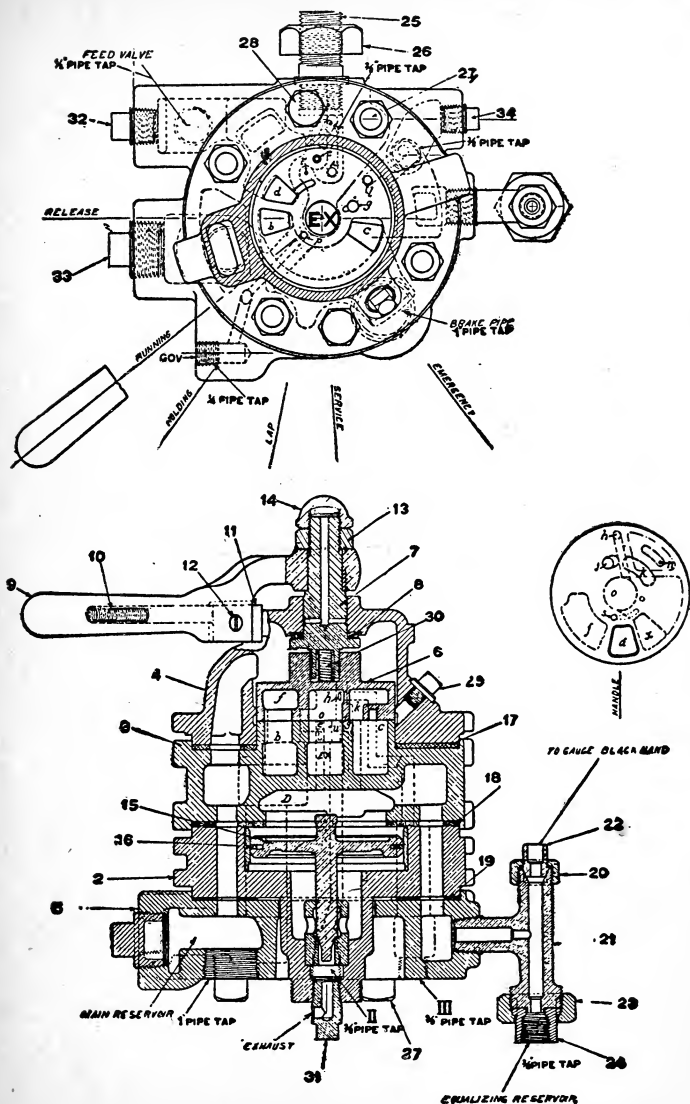

Fig. 1—The H-6 Automatic Brake Valve. Cross Section.
A. In the automatic brake valve is a piston and valve called the equalizing discharge piston and valve, No. 15. See Figure 1. The underside of this piston is directly connected to the brake pipe. The chamber *D*, above piston 15, is directly connected to the equalizing reservoir *ER* and to a small port *e* in the
rotary valve seat called the preliminary exhaust port. In *service* position the preliminary exhaust port is open to the atmosphere through port *h* and exhaust cavity *o* (see small view plan of Rotary Valve at right, see Fig. 1), in the rotary valve, thus allowing air from the equalizing reservoir and the chamber *D* above the equalizing discharge piston to flow to the atmosphere. This reduces the pressure on the top of the piston below the brake pipe pressure on the underside, which raises the equalizing discharge piston 15 and permits brake pipe air to flow to the atmosphere through the service exhaust fitting *B. P. Ex.* The flow of air from the equalizing reservoir to the atmosphere continues until the brake valve handle is returned to *lap* position. This closes the preliminary exhaust port *e*, and prevents further decrease of pressure in the equalizing reservoir and chamber *D*. Air will continue to discharge from brake pipe until its pressure has been reduced slightly lower than that remaining in chamber *D*. The higher pressure on the top of the piston then forces the valve to its seat and prevents further reduction of brake pipe pressure.